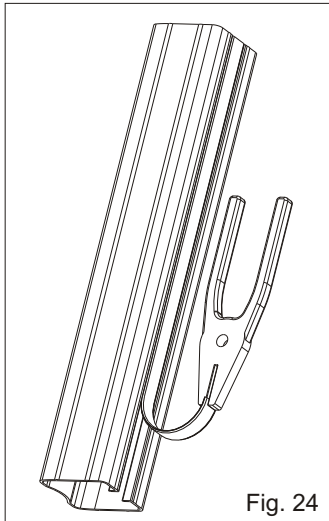
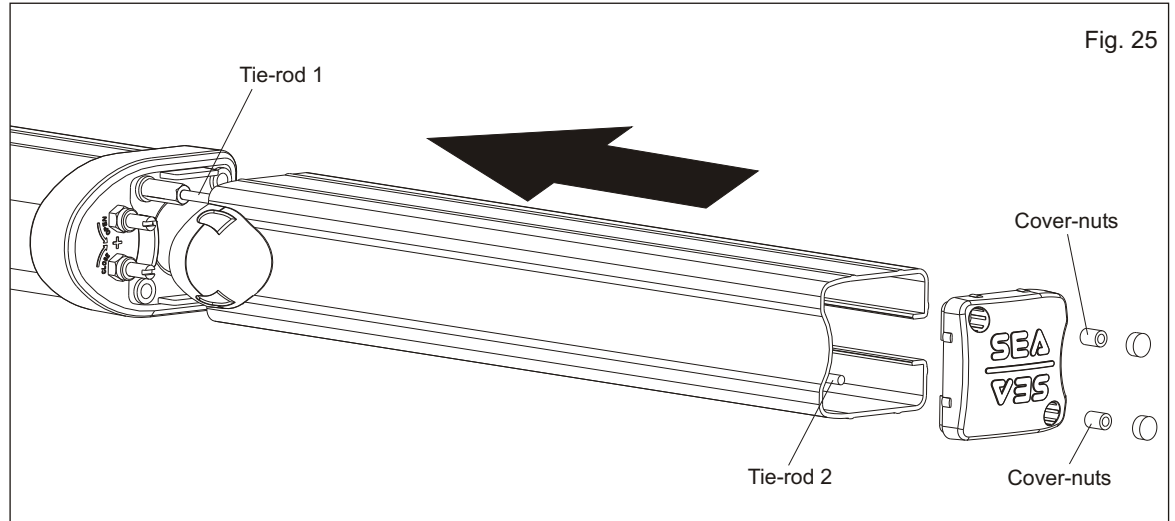

Fig. 24
Fig. 25
**2.10.** Remove the pull tongue from the shaft-cover (Fig 24) and mount it on the operator through the two tie-rods without excessively tightening the two cover-nuts (Fig 25).